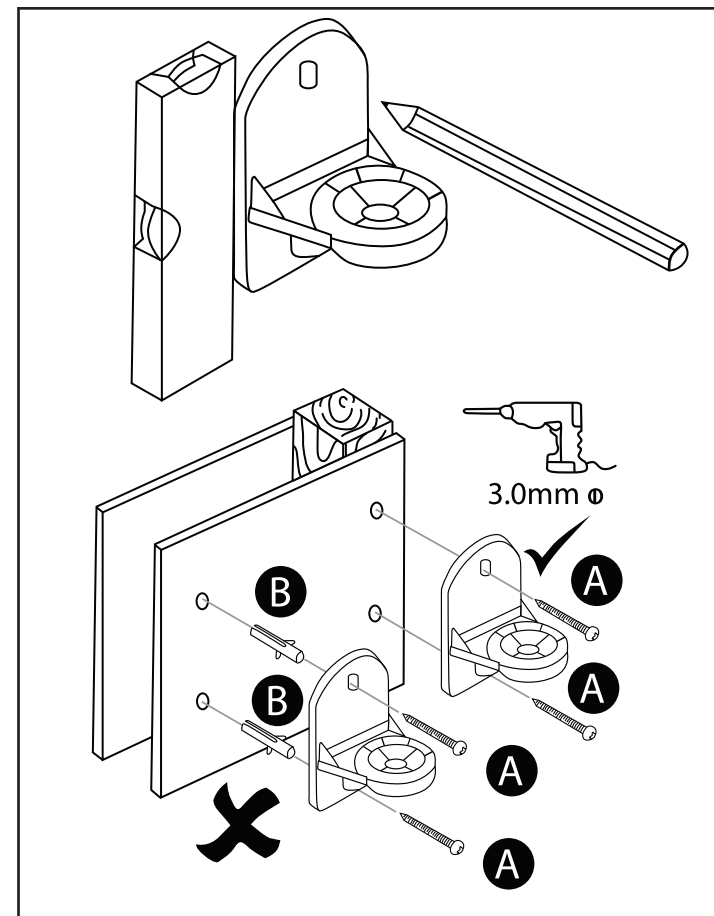

Figure 5
### A. Installing in Drywall (Timber Frame) (See Figure 5).
1. Locate centre of timber stud using a stud finder (Caution- the timber stud must be used do not try any other method as shown in figure 5 as these will not hold the Speaker up and Crest is not responsible for any damage that may be caused by incorrect installation).
4. Attach the wall plate using long screws (A) 1 1/2"No.B Woodscrew. Do not over tighten.